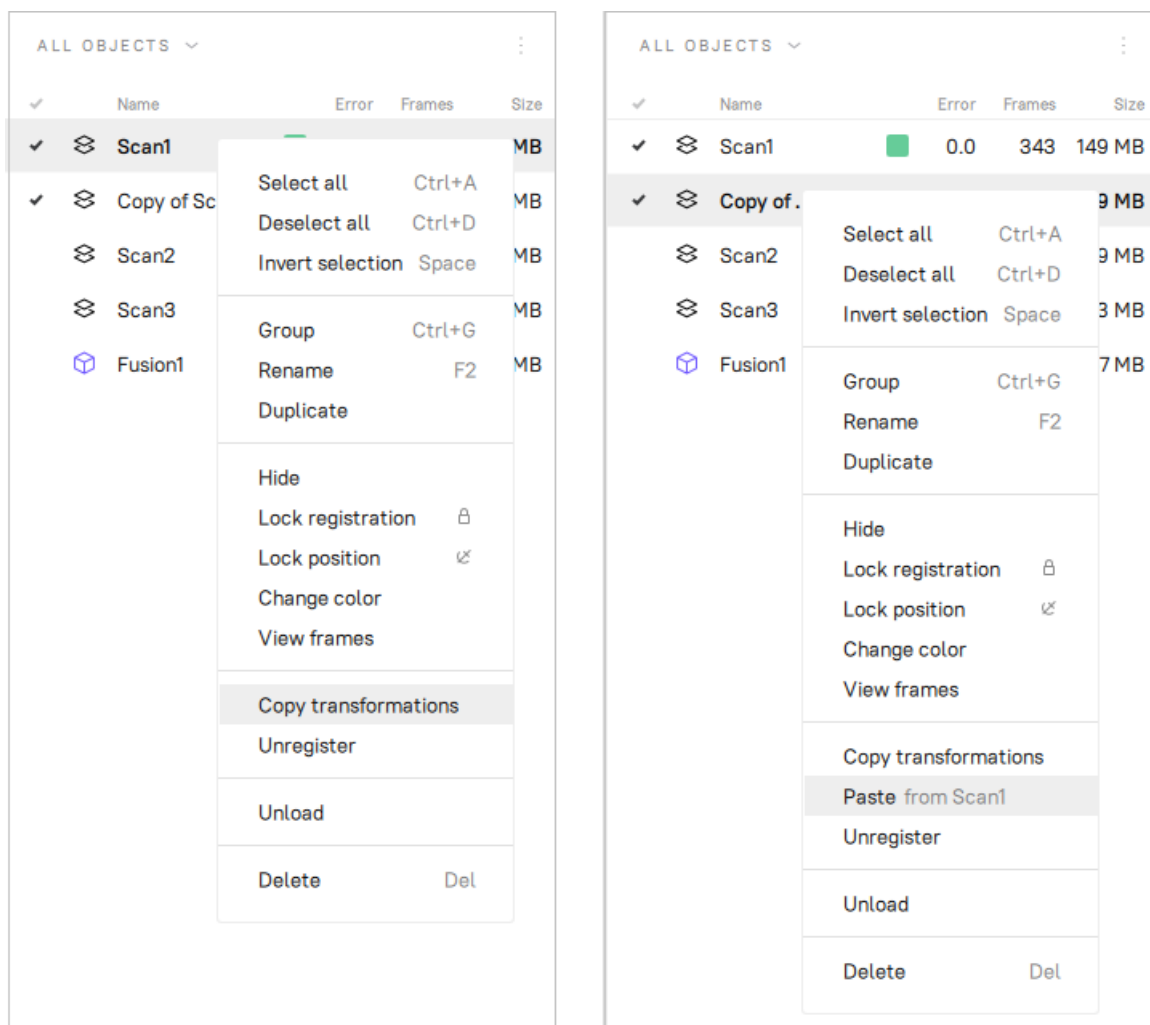

Figure 98: Transferring transformations: copying transformations (left) and pasting them (right)
1. In the Workspace panel, right-click the source scan and choose *Copy Transformation* from the context menu (see Figure 98, left). The transformations of the source scan and its frames will be saved.
3. Right-click the selected scan(s) and from the context menu choose *Paste from <source scan name>* (see Figure 98, right).